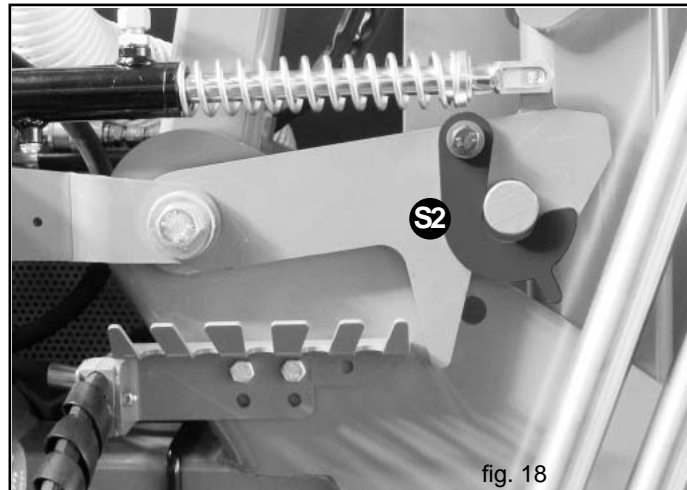

fig. 18
- 4) To set the machine to full safety conditions, get off the tractor and turn the locking clips until they make contact with the safety pins (S2, Fig. 18).